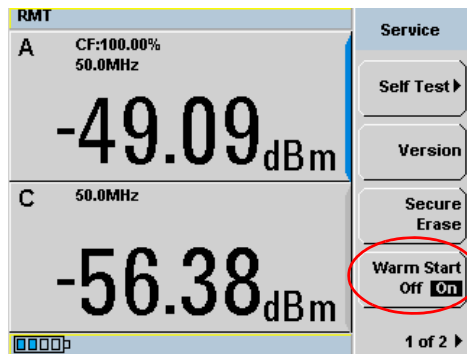

Figure 2-61 Enable/disable warm start feature
- 2 In the Service menu, press **Warm Start Off/On** to enable or disable the warm start feature. This feature is set to ON by default (see Figure 2-61).